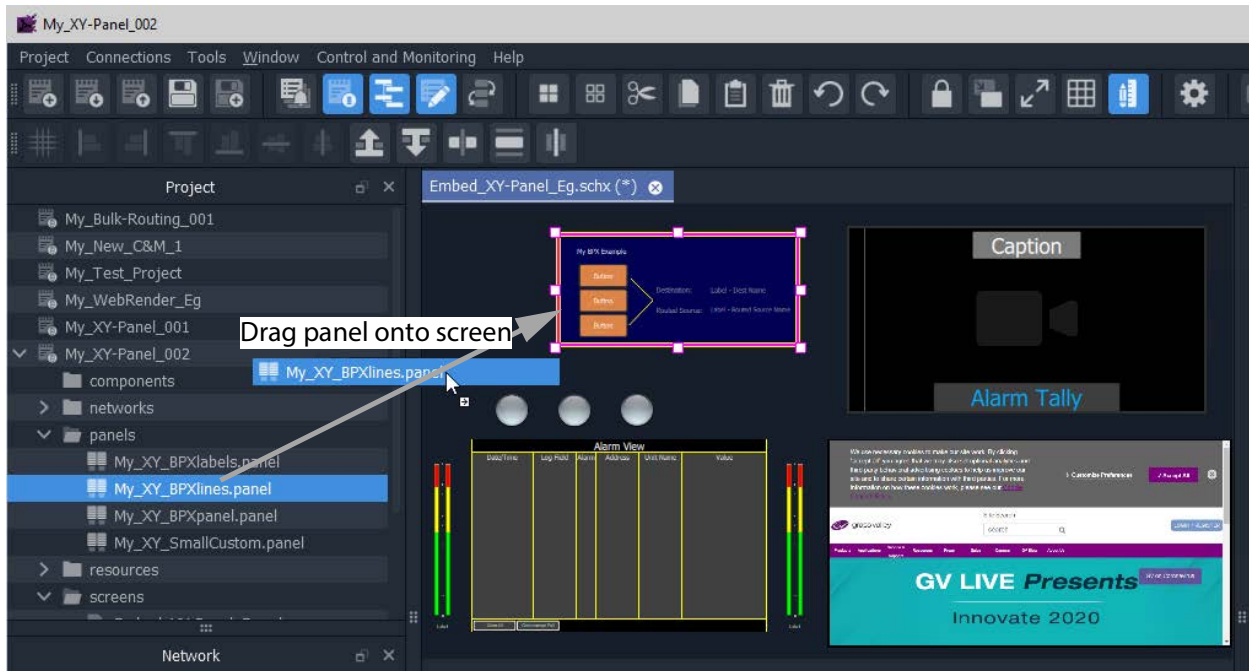

Fig. 14-65: Drag on an XY Panel
- 6 Drag an XY panel from the **Project** window onto the C&M project screen. and release. See Figure 14-65.